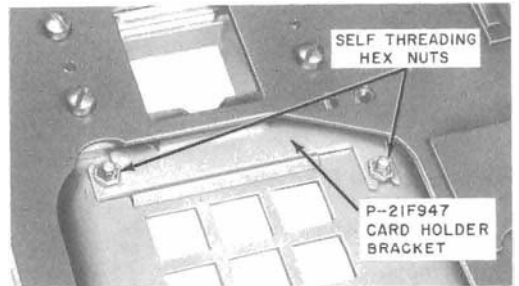

**Fig. 14—Number Card and Associated Hardware (TOUCH-TONE)**
- (b) A P-21F947 card holder bracket, P-21F948 window, and two hex nuts (Fig. 14) are packaged separately and shipped in the cash compartment.
- (1) Remove dial housing.